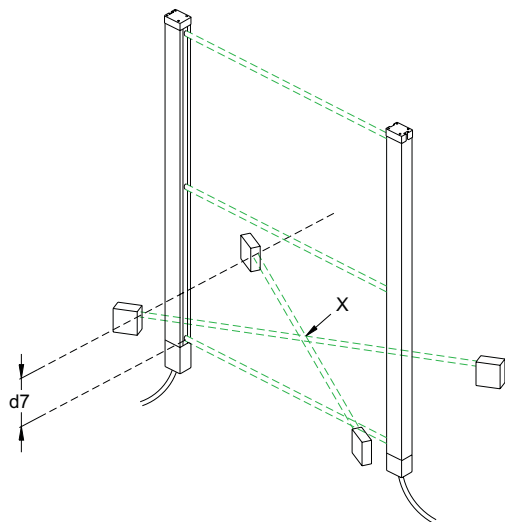

Figure 10a
- The point of intersection of the two muting sensors must be positioned higher than, or at most at the same level, as the lower beam of the safety light curtain to avoid easy tampering (see Figures 10a and 10b).